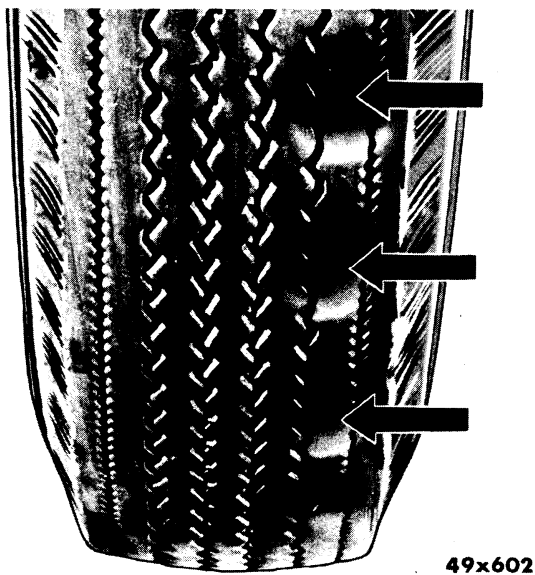

Fig. 25—Spotty Wear
b. Spotty Wear (Fig. 25) usually becomes evident on front tires when tires are not rotated every 3,000 miles, the recommended interval.